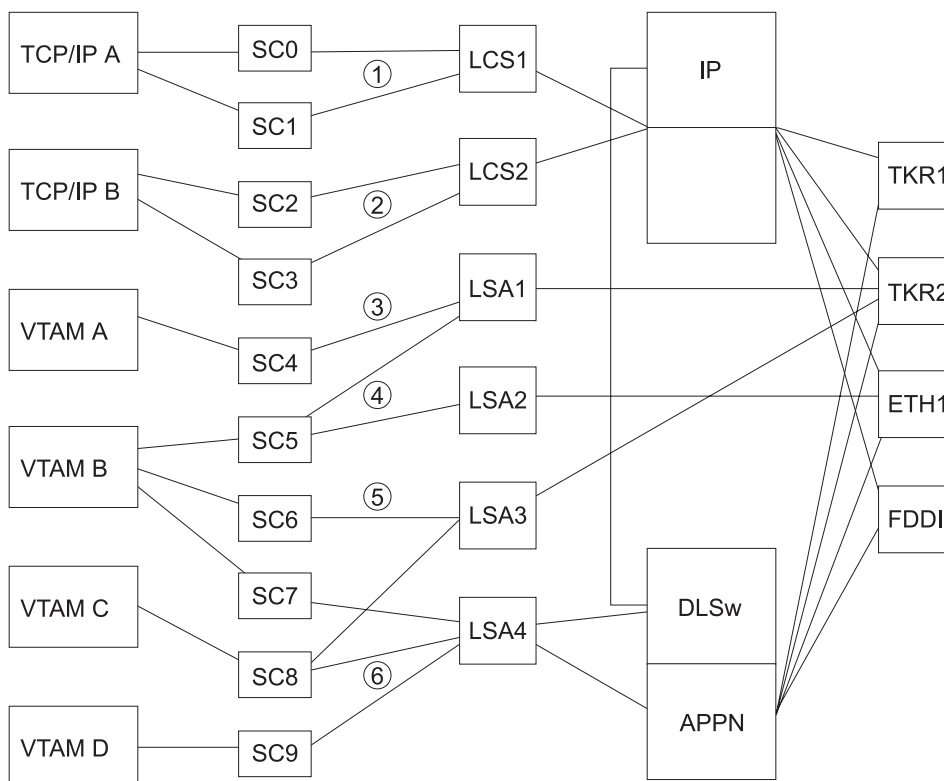

Figure 5-7. Rules for LAN/WAN Gateway Definitions for LCS and LSA Subchannels
**Sample Illustration of the Rules for LCS and LSA Subchannels:** Figure 5-7 illustrates valid uses of subchannels by LAN adapters, according to these rules, for LCS and LSA1.